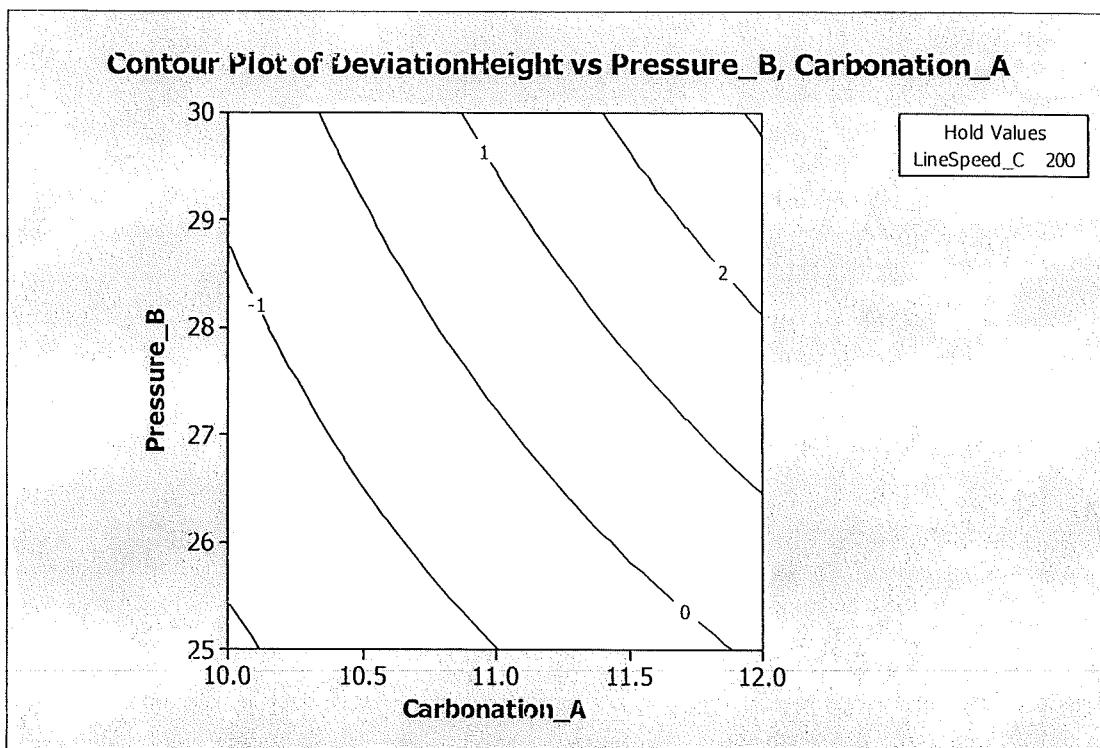
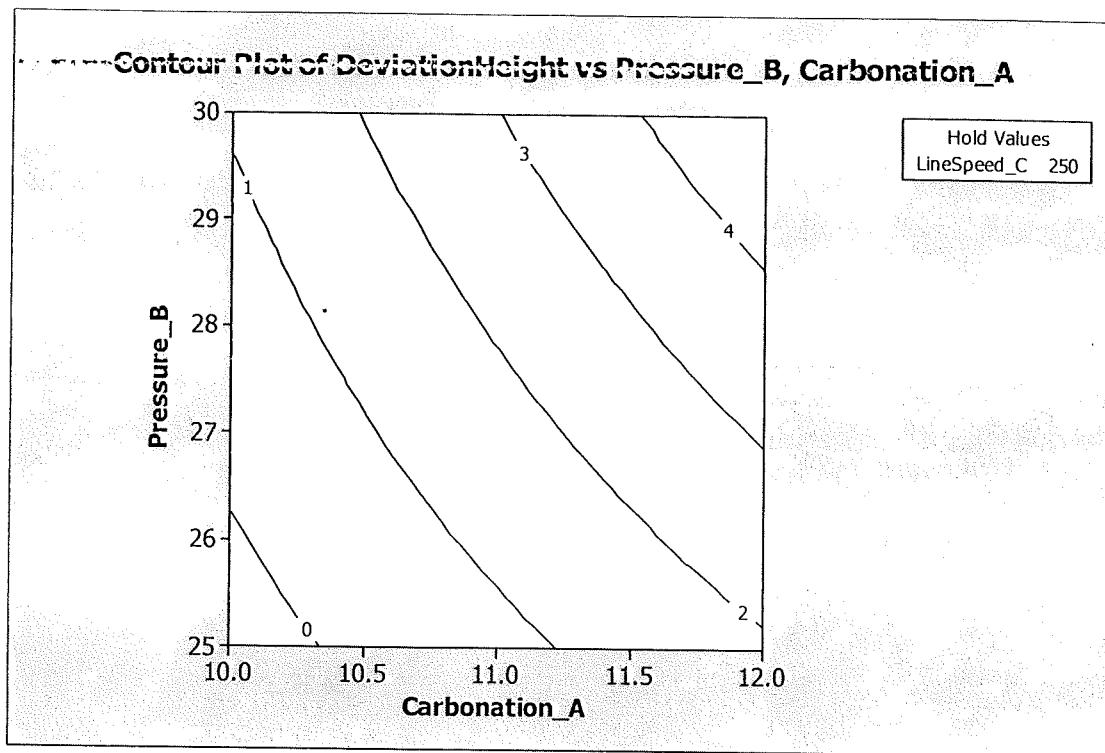

Figure 9: Contour Plot of DeviationHeight vs Pressure_b,Carbonation_A with hold Linespeed values 200 b/m
Figure 10: Contour Plot of DeviationHeight vs Pressure_B, Carbonation_A with hold Linespeed values 250 b/m
- (i) The above contour plots identify the fill deviation with respect to carbonation and pressure. The plot on Figure 9 set the speed at 200 b/m while the plot on Figure 10 with speed at 250 b/m. Provide your analysis on the above contour plots if the manufacturer wanted to minimize the deviation to zero.